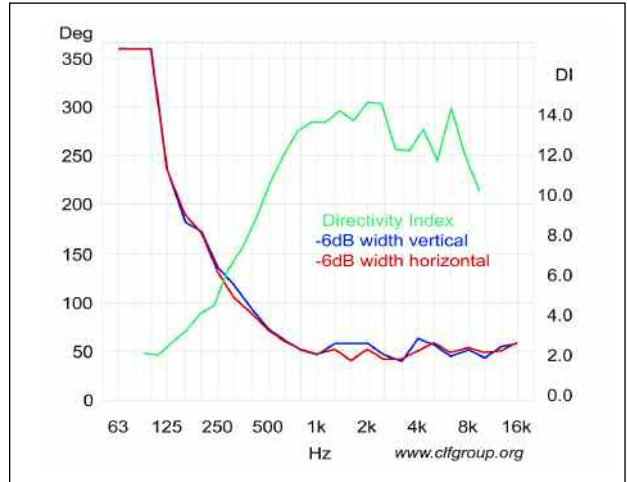

Figure 2
A quick comparison of the horizontal and vertical beamwidths of the SH-50 shows them to be essentially identical (**Figure 2**). This plot also shows the directivity index (DI). The model number aptly describes the beamwidth of the loudspeaker – approximately 50 degrees for the high frequency decade and much of the mid frequency decade, eventually becoming omni at low frequencies. The SH-50 holds its pattern for nearly five octaves. Neither crossover frequency is apparent from the radiation balloons or polars – a noteworthy accomplishment for a three-way system. The crossover network is passive, so this box requires very little signal processing for its direct field response to be flat.